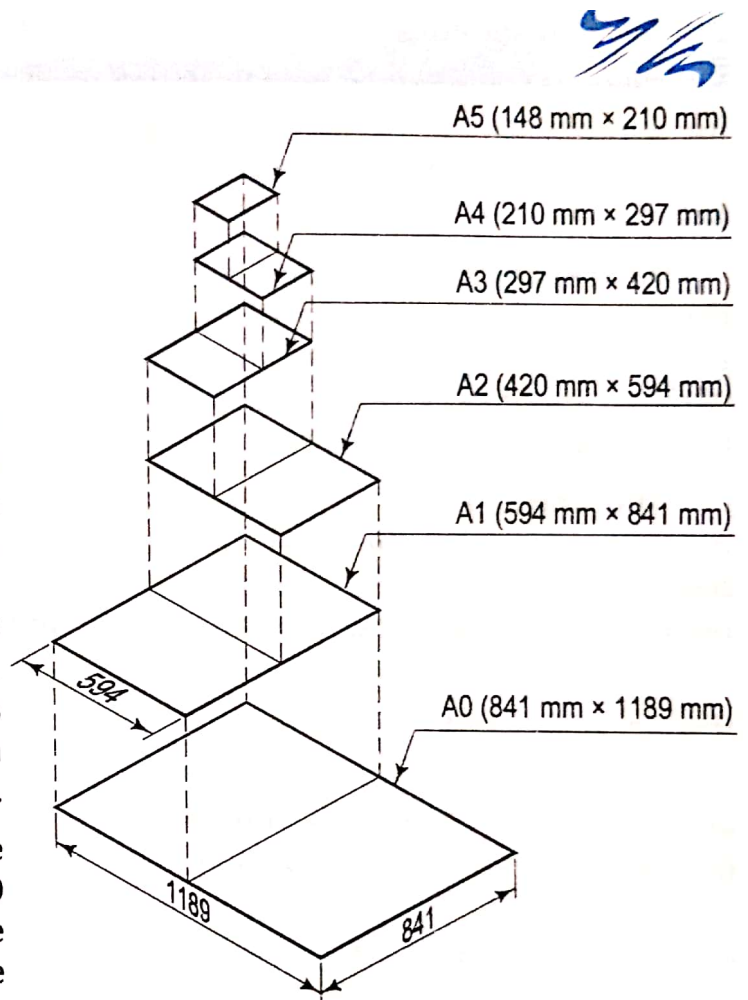

FIG. 1-30
Surface area of A0 size is one square metre. Successive format sizes (from A0 to A5) are obtained by halving along the length or doubling along the width. The areas of the two subsequent sizes are in the ratio 1:2. See fig. 1-30.
(1) **Sheet sizes:** The preferred sizes of the drawing sheets recommended by the Bureau of Indian Standards (B.I.S.) are given below as per SP : 46 (2003). Refer fig. 1-30: